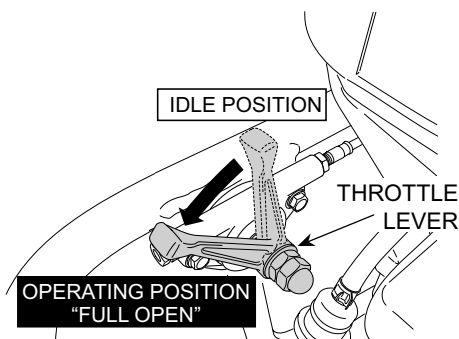

Figure 18. Throttle Lever (Full Open)
10. To start the rammer tamping action, move the throttle lever (Figure 18) quickly from **IDLE** (close) to the **FULL OPEN** position. **DO NOT** move the throttle lever slowly as this may cause damage to the clutch or spring.